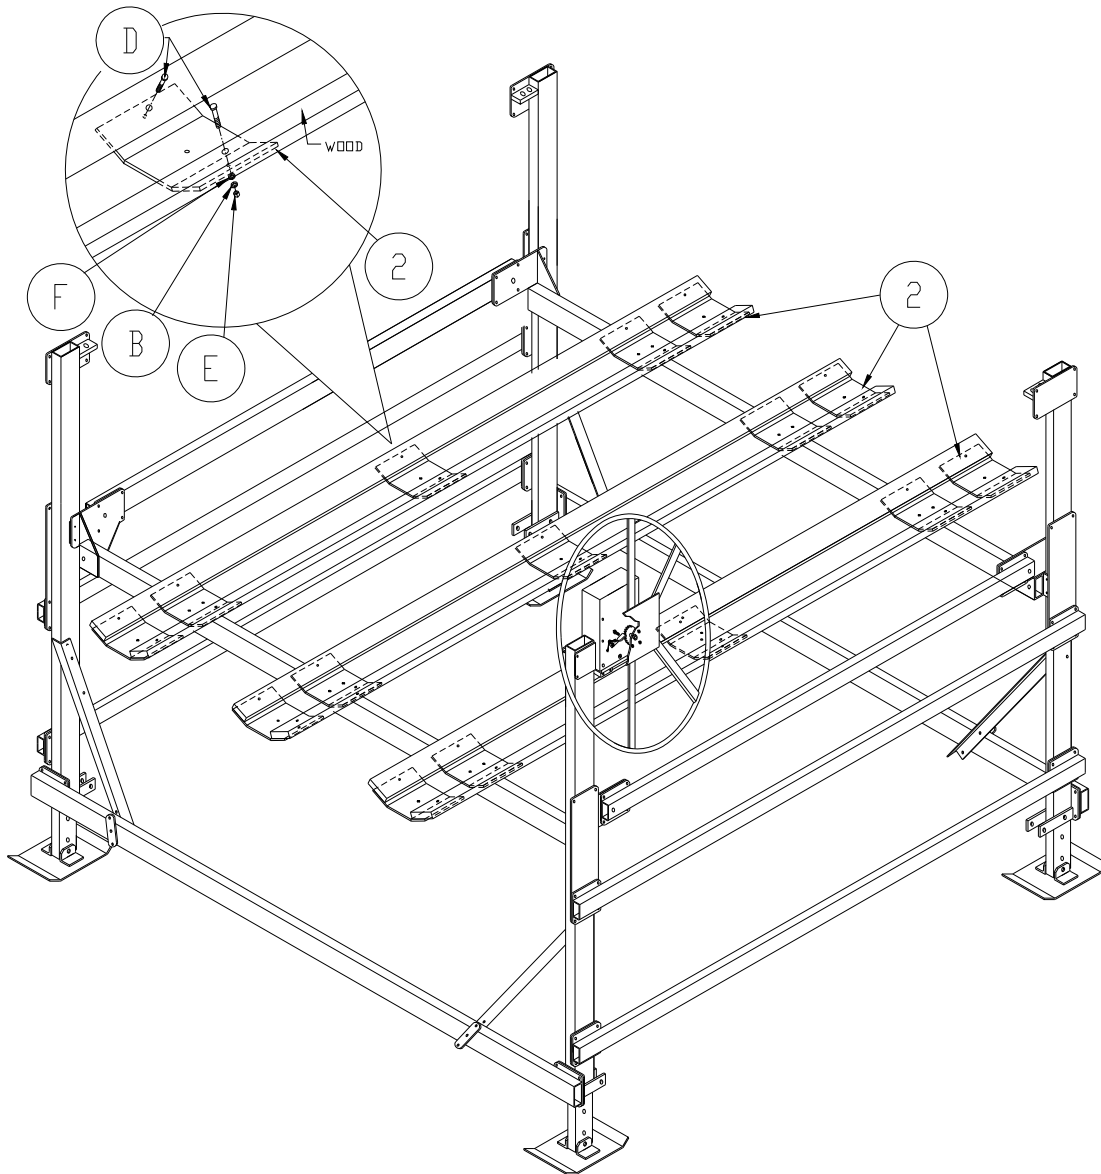

Figure 2-4.
1. Refer to **Figure 2-4**. Position the nine three-hole cradle support plates (2) onto the underside of the wood, three on each pontoon cradle. One each end and one at approximately center.
2. Mark the location of the two holes for each support plate (2) and drill the necessary holes using the 7/16" drill bit. Next drill the optional 1/4" deep countersink.
3. Attach each support plate (2) to the underside of the two pieces of wood using: two carriage bolts (D), two flat washers (F), two split-lock washers (B), and two hex nuts (E).